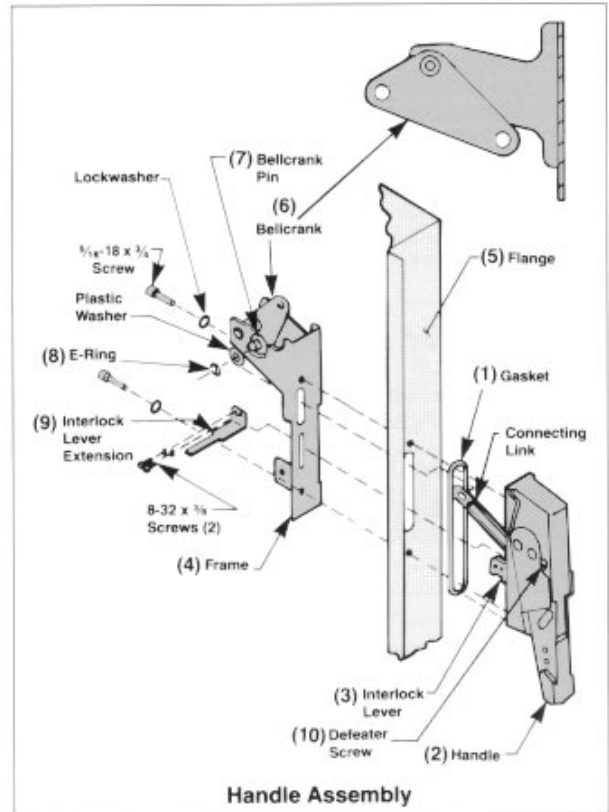

Figure 3
- D. Place the plastic washer and connecting link onto the bellcrank pin (7). Secure the connection with the E-ring supplied (8) (Figure 3).
- E. Attach the interlock level extension (9) to the interlock lever using two #8-32-3/8 in. screws and #8 lockwashers. Screws mount through the threaded lever extension into the lever. Tighten to 25 in.-lb. (Figure 3).
When the enclosure door is open, the operating handle cannot be moved from the OFF to ON position without deliberately defeating the interlock mechanism. In the OFF position, the interlock can be defeated by pushing the interlock lever extension downward while moving the handle to the ON position. With the enclosure door open and the handle in the ON position, the interlock can be defeated by turning the defeater screw (10) (Figure 3) on the operating handle. When the enclosure door is closed, the door latch mechanism automatically defeats the interlock.